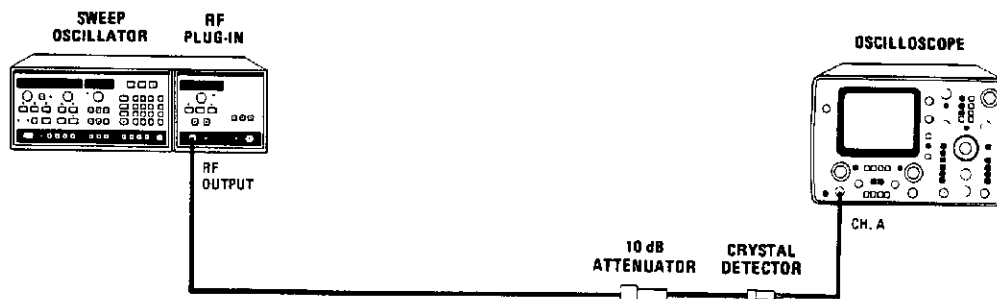

Figure 5-39. Squarewave Symmetry Adjustment Setup
1. Connect the equipment as shown in Figure 5-39, with A4 on an extender board. On the HP 8350A/B, press [INSTR PRESET] [CW] [MOD]. Set the RF power level to 0 dBm and allow the equipment to warm up for one hour.